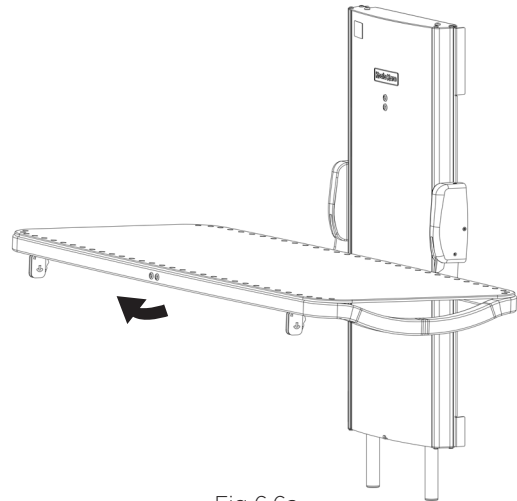

Fig 6.6a
- Reach underneath the stretcher and take hold of the guard. The guard is stowed with magnets, see Fig 6.6a.